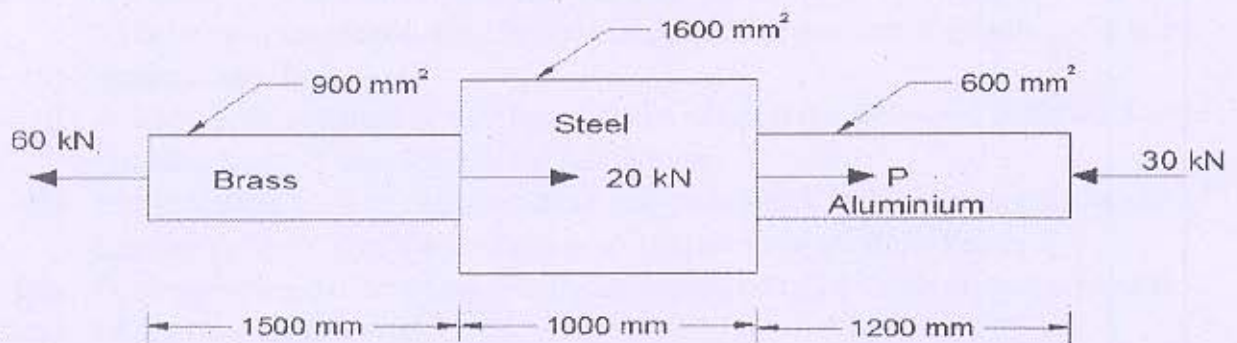

Figure 6
- (ii) Find out force P required for equilibrium of the bar shown in Figure 6. Find out total deformation of the bar if $E_s = 200\text{GPa}$, $E_b = 100\text{GPa}$, $E_{al} = 75\text{GPa}$.